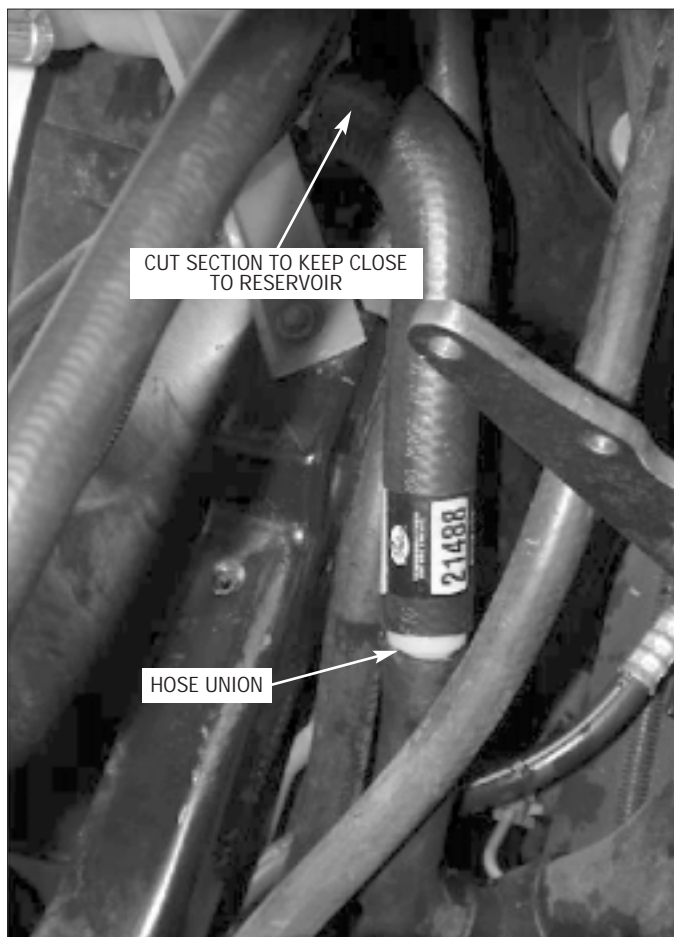

Fig. 7-a
- A. Remove the hose branching off the lower passenger's side radiator hose connecting the bottom barb of the radiator reservoir to the main radiator hose. Trim the branched hose so there is 9" left of the hose coming off the larger radiator hose. (See Fig. 7-a, 7-c.)
- B. Trim the supplied 1.0" I.D. x 90° hose as shown in Figs. 7-a, 7-c. It is important to trim the short leg the 90° molded hose as close to the radius as possible to make clearance for the inlet duct that will be installed in section 12. (See Fig. 12-a).